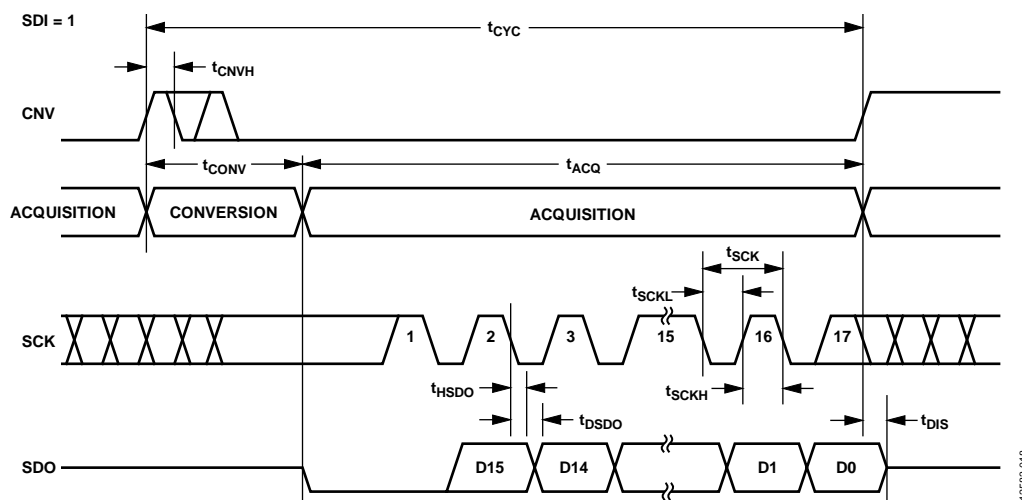
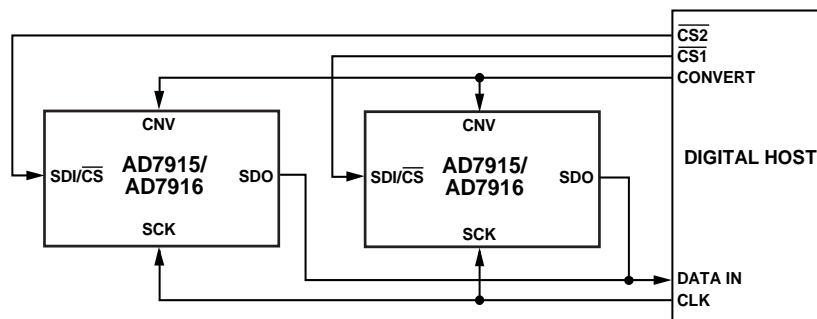
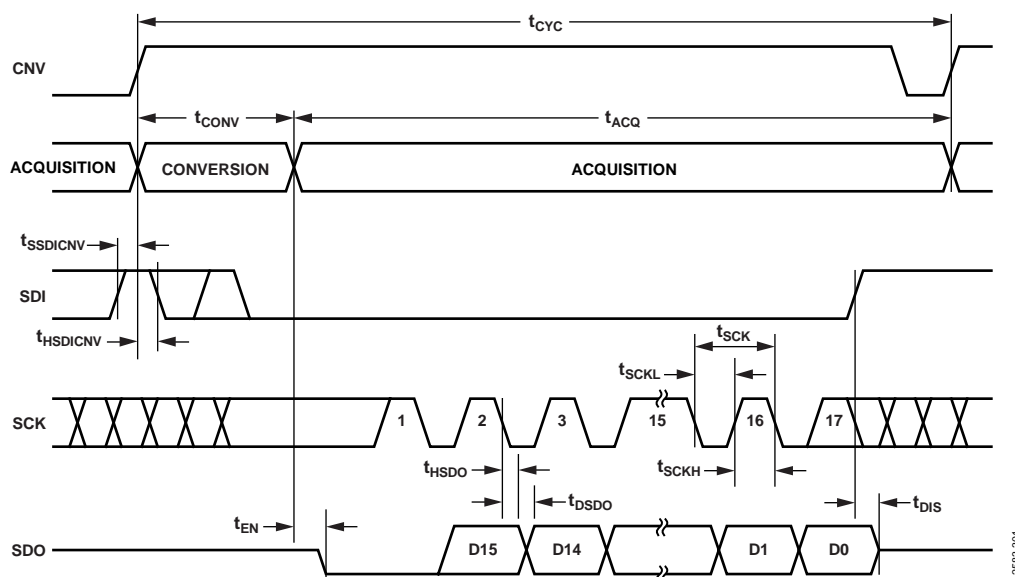
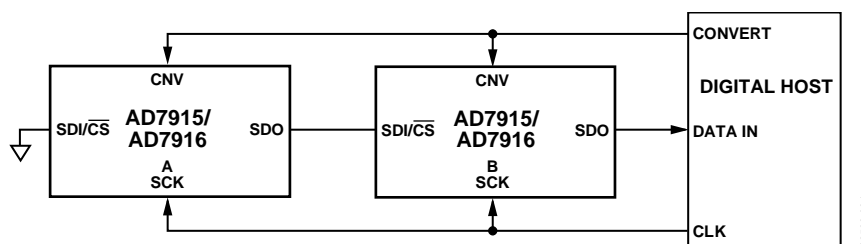

Figure 37. 3-Wire $\overline{\text{CS}}$ Mode with Busy Indicator Serial Interface Timing (SDI High)
Figure 38. $\overline{\text{CS}}$ Mode Without Busy Indicator, 4-Wire Connection Diagram
Figure 41. 4-Wire $\overline{\text{CS}}$ Mode with Busy Indicator Serial Interface Timing
Figure 42. Chain Mode Without Busy Indicator Connection Diagram
- in $\overline{\text{CS}}$ mode if CNV or SDI is low when the ADC conversion ends (see Figure 38 and Figure 42).
The connection diagram is shown in Figure 37, and the corresponding timing is given in Figure 38.
The connection diagram is shown in Figure 41, and the corresponding timing is given in Figure 42.